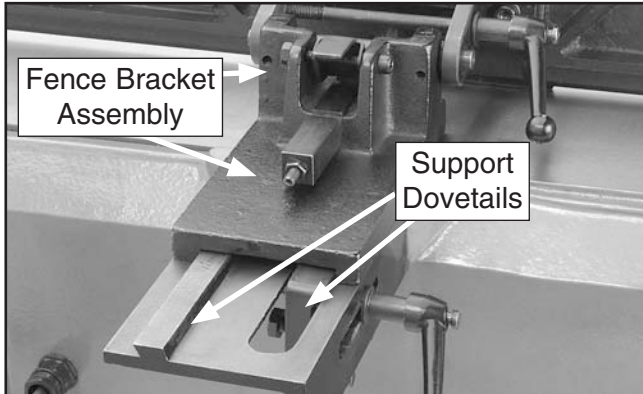

Figure 13. Installing fence assembly.
- Slide the fence bracket assembly over and onto the support dovetails, as shown in **Figure 13**.